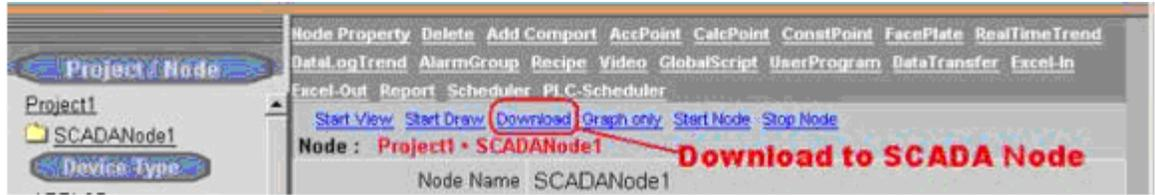

Figure 4-31 - SCADA Node Main page (Main.asp) - Download
1. Select the SCADA Node under your Project Name in the Project/Node list (Figure 4-31).
5. From Project Manager Select **Start node** (Figure 4-31).